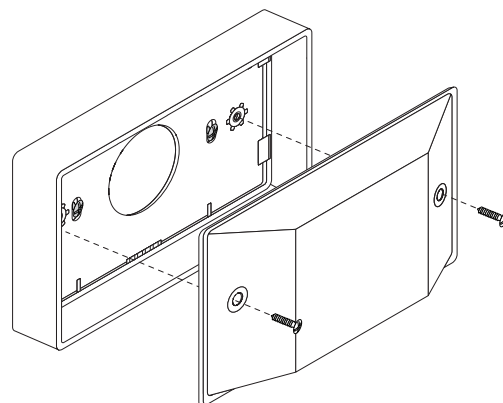

Figure 3: Assembling the Housing
4. After wiring and addressing the module, attach the housing top to the mounted base with the housing fastener screws. Refer to Figure 3.